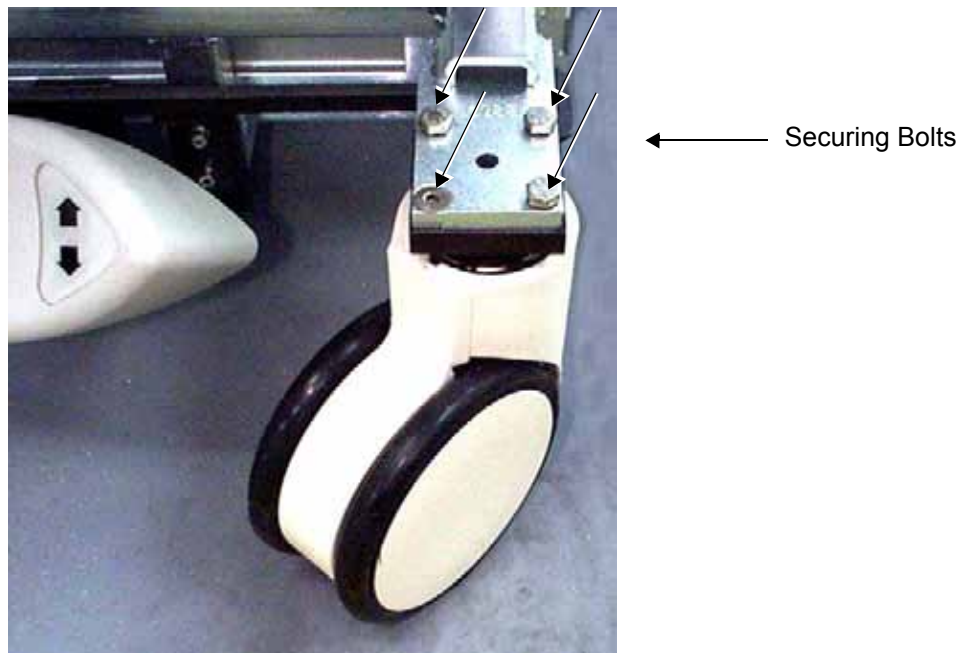

Figure 8-101 Front Wheel (Part No 2269437) Bolted to Chassis
- 3.) Return the four bolts (three wrench bolts and one Allen bolt - removed in step 3 on page 8-115) and make sure that wheel is secured firmly to the chassis (see Figure 8-101 on page 8-115).